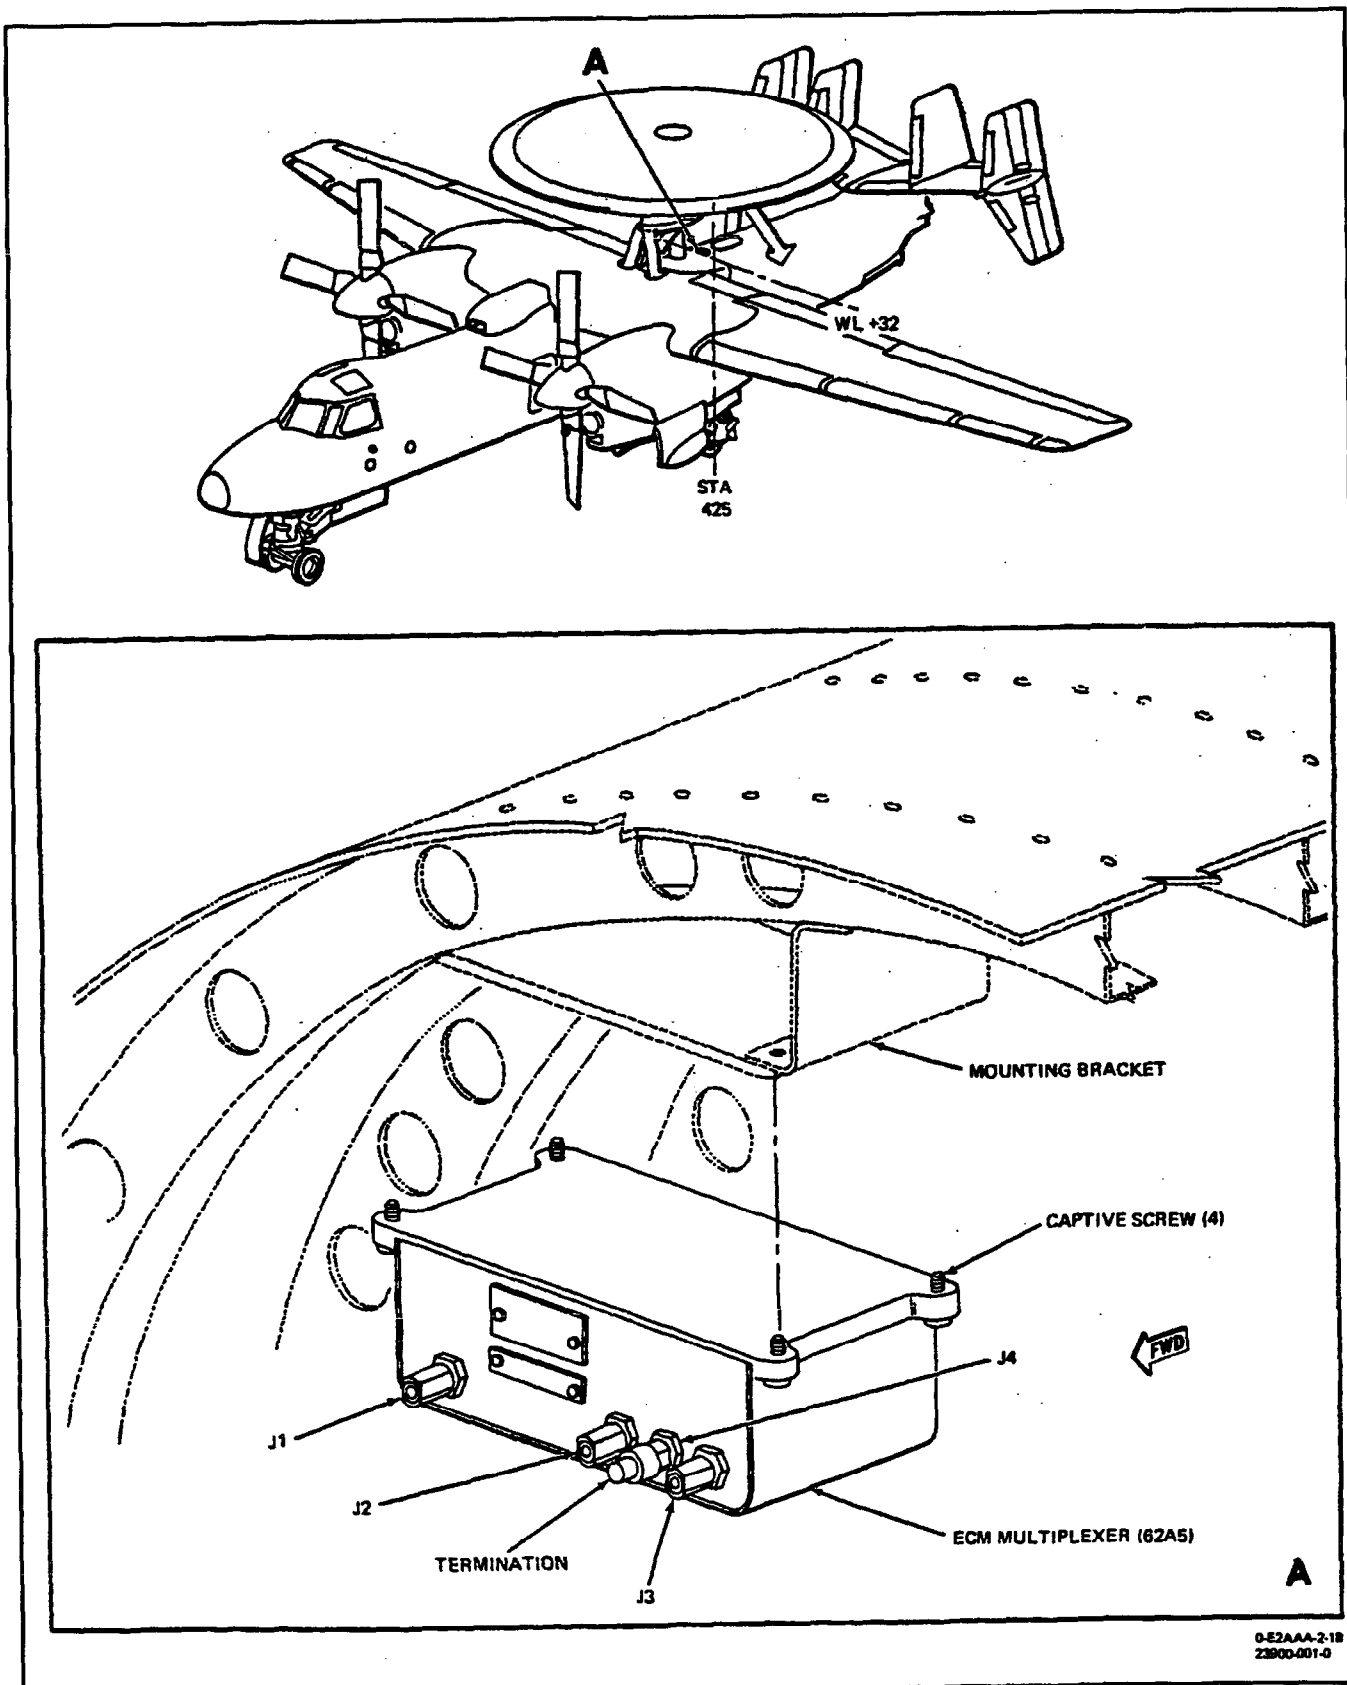

Figure 1. Removal and Installation of ECM Multiplexer
**4. REMOVAL.** (See figure 1.)
5. **INSTALLATION.** (See figure 1.)